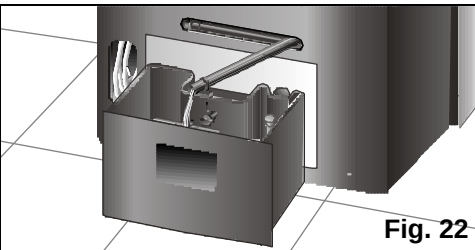

Fig. 22
- ☐ Before tilting it, empty the condensed water from the internal tank by extracting the water drainage pipe from its housing and removing the plug, **Fig. 22**. Place a receptacle (or the appliance's removable tank) at the end of the water drainage pipe to collect the condensed water or lead the pipe to the nearest drain. Do not forget to replace the plug and reinsert the pipe in its housing when the tank is empty.